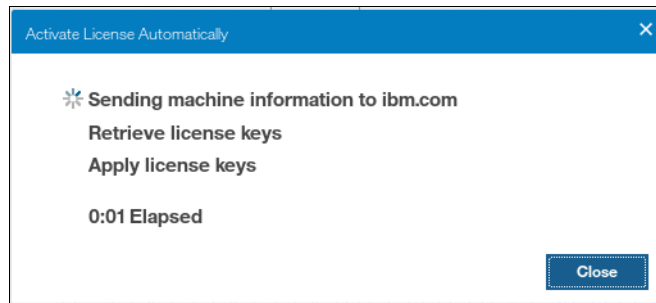

Figure 13-14 Activating encryption
3. The system connects to Lenovo to verify the authorization code and retrieve the license key. Figure 13-14 shows a window which is displayed during this connection. If everything works correctly, the procedure takes less than a minute.